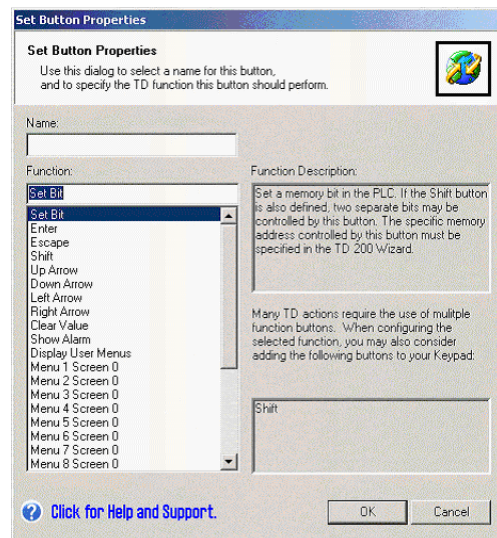

Figure 3-10 Button Properties Dialog
3. Select the function for the button and click OK. See Figure 3-10.